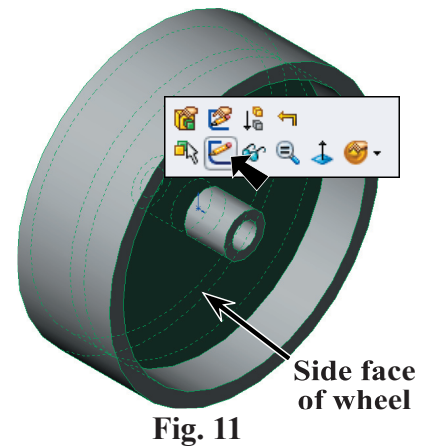

Fig. 11
Step 1. Click the **side face of wheel** and click **Sketch**  on the Content menu, **Fig. 11**.